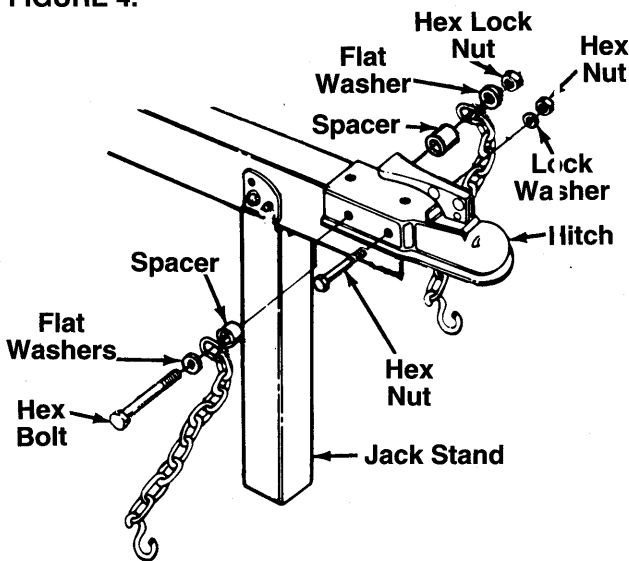

FIGURE 5.
2. Place the hitch in position on the end of the tongue as shown in figure 5. Using hole closest to the jack stand, insert the hex bolt (with hardware attached) through hitch and tongue.